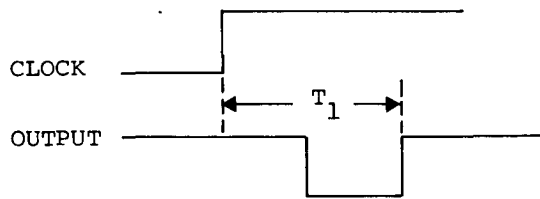

Figure 2
3. Observe the waveform at pin B61 with channel one. Observe the waveform at pin T77 with the second channel. The minimum delay from pin B61 going positive to pin T77 going positive should be 80 nanoseconds. The waveforms should appear as in figure 2. If the delay is less than 80 nanoseconds the value of capacitor C202 and C203 should be increased.